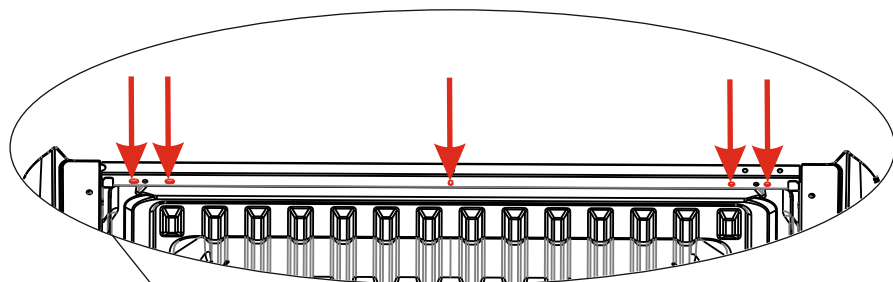

FIGURE 4
[SEE FIGURE 4]
3. BOLT M8X40 BUTTON HEAD TO THE TOP OF THE LOAD BIN IN THE REAR. (SEE FIGURE 4)